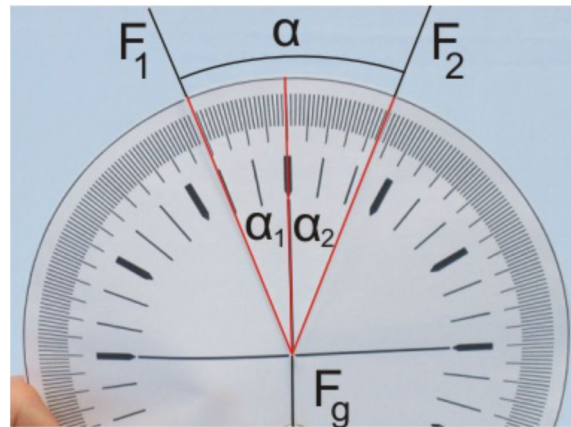

Fig. 10
- Adjust the 1 N spring balance in its holder so that both angles (α_1 and α_2) which the forces F_1 and F_2 form with the perpendicular line are equal (Fig. 10).